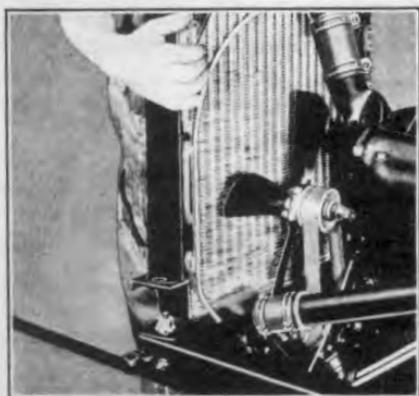

Fig. 21
- (e) Lift off radiator, lower thimbles and springs (See Fig. 21).